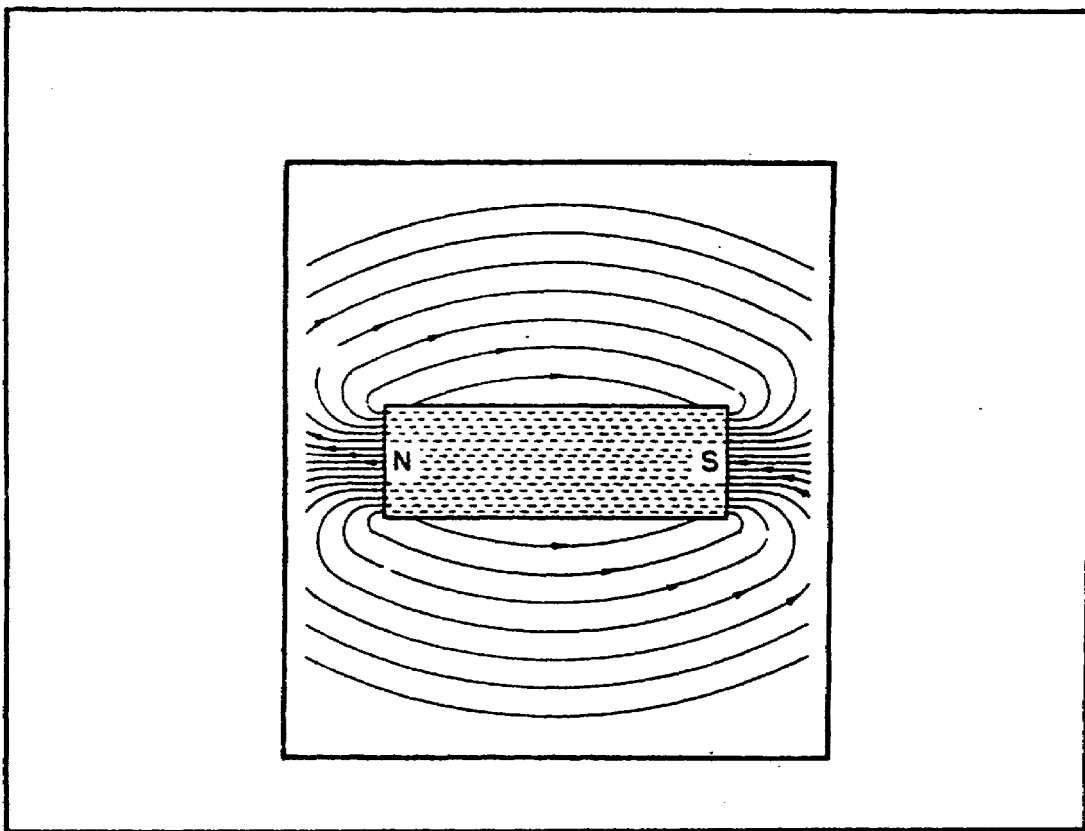

FIGURE 4. BAR MAGNET SHOWING LINES OF FORCE.
(1) *Lines of Force.* To further describe and work with magnetic phenomena, lines are used to represent the force existing in the area surrounding a magnet. (figure 4). These lines, called MAGNETIC LINES OF FORCE, do not actually exist, but are imaginary lines used to illustrate and describe the pattern of the magnetic field. The magnetic lines of force are assumed to emanate from the north pole of a magnet, pass through the surrounding space, and enter the south pole. The lines of force then travel inside the magnet from the south pole to the north pole, thus completing a closed loop.